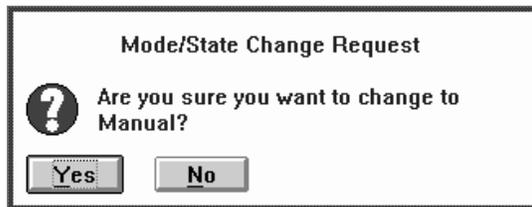

Figure 141. Mode/State Change Request Window
4. Select the **Yes** push button in the Mode/State Change Request window (Figure 141) to start the change to Manual mode.